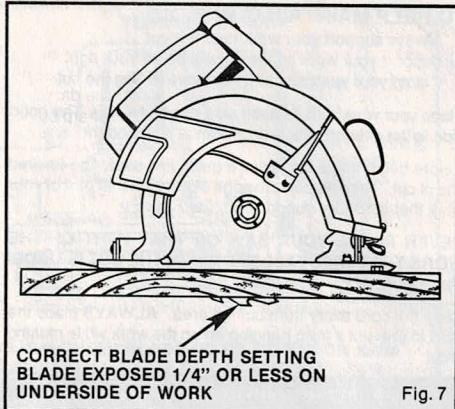

Fig. 7
1. Always keep the correct blade depth setting – the correct blade depth setting for all cuts should not exceed 1/4" below the material to be cut. See Figure 7.